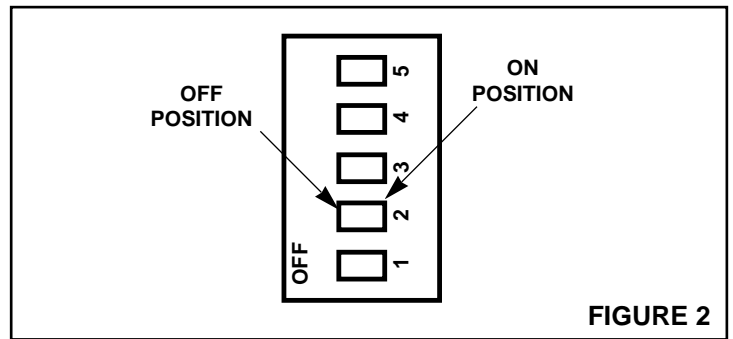

FIGURE 2
1. Refer to Figure 2. Locate the Selector Switch on the back of the remote control unit.